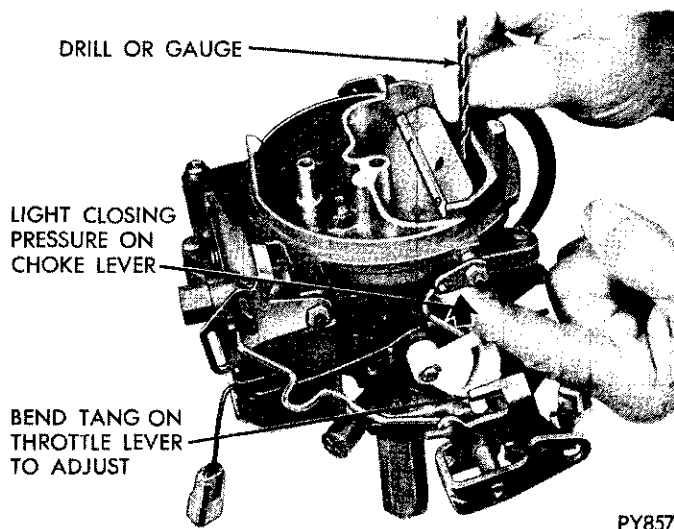

Fig. 23—Choke Unloader Adjustment (Wide Open Kick)
(1) Hold throttle valves in wide open position. Insert specified drill (see Specifications) between upper edge of choke valve and inner wall of air horn (Fig. 23).
(2) With a finger lightly pressing against shaft
lever, a slight drag should be felt as drill is being withdrawn. If an adjustment is necessary, bend unloader tang on throttle lever until correct opening has been obtained (Fig. 23). Use Tool T109-213.